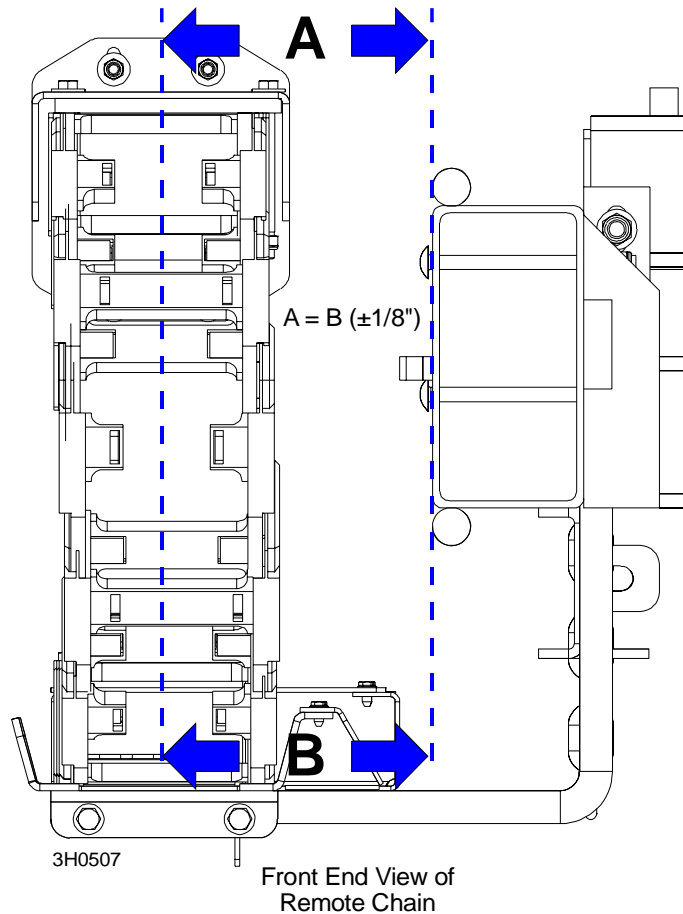

**FIG. 5-16**
**See Figure 5-16.** To disassemble the chain use a screwdriver to pry the connecting links apart. After removing the connecting links, the side plates can be disassembled by pulling them apart at an angle.